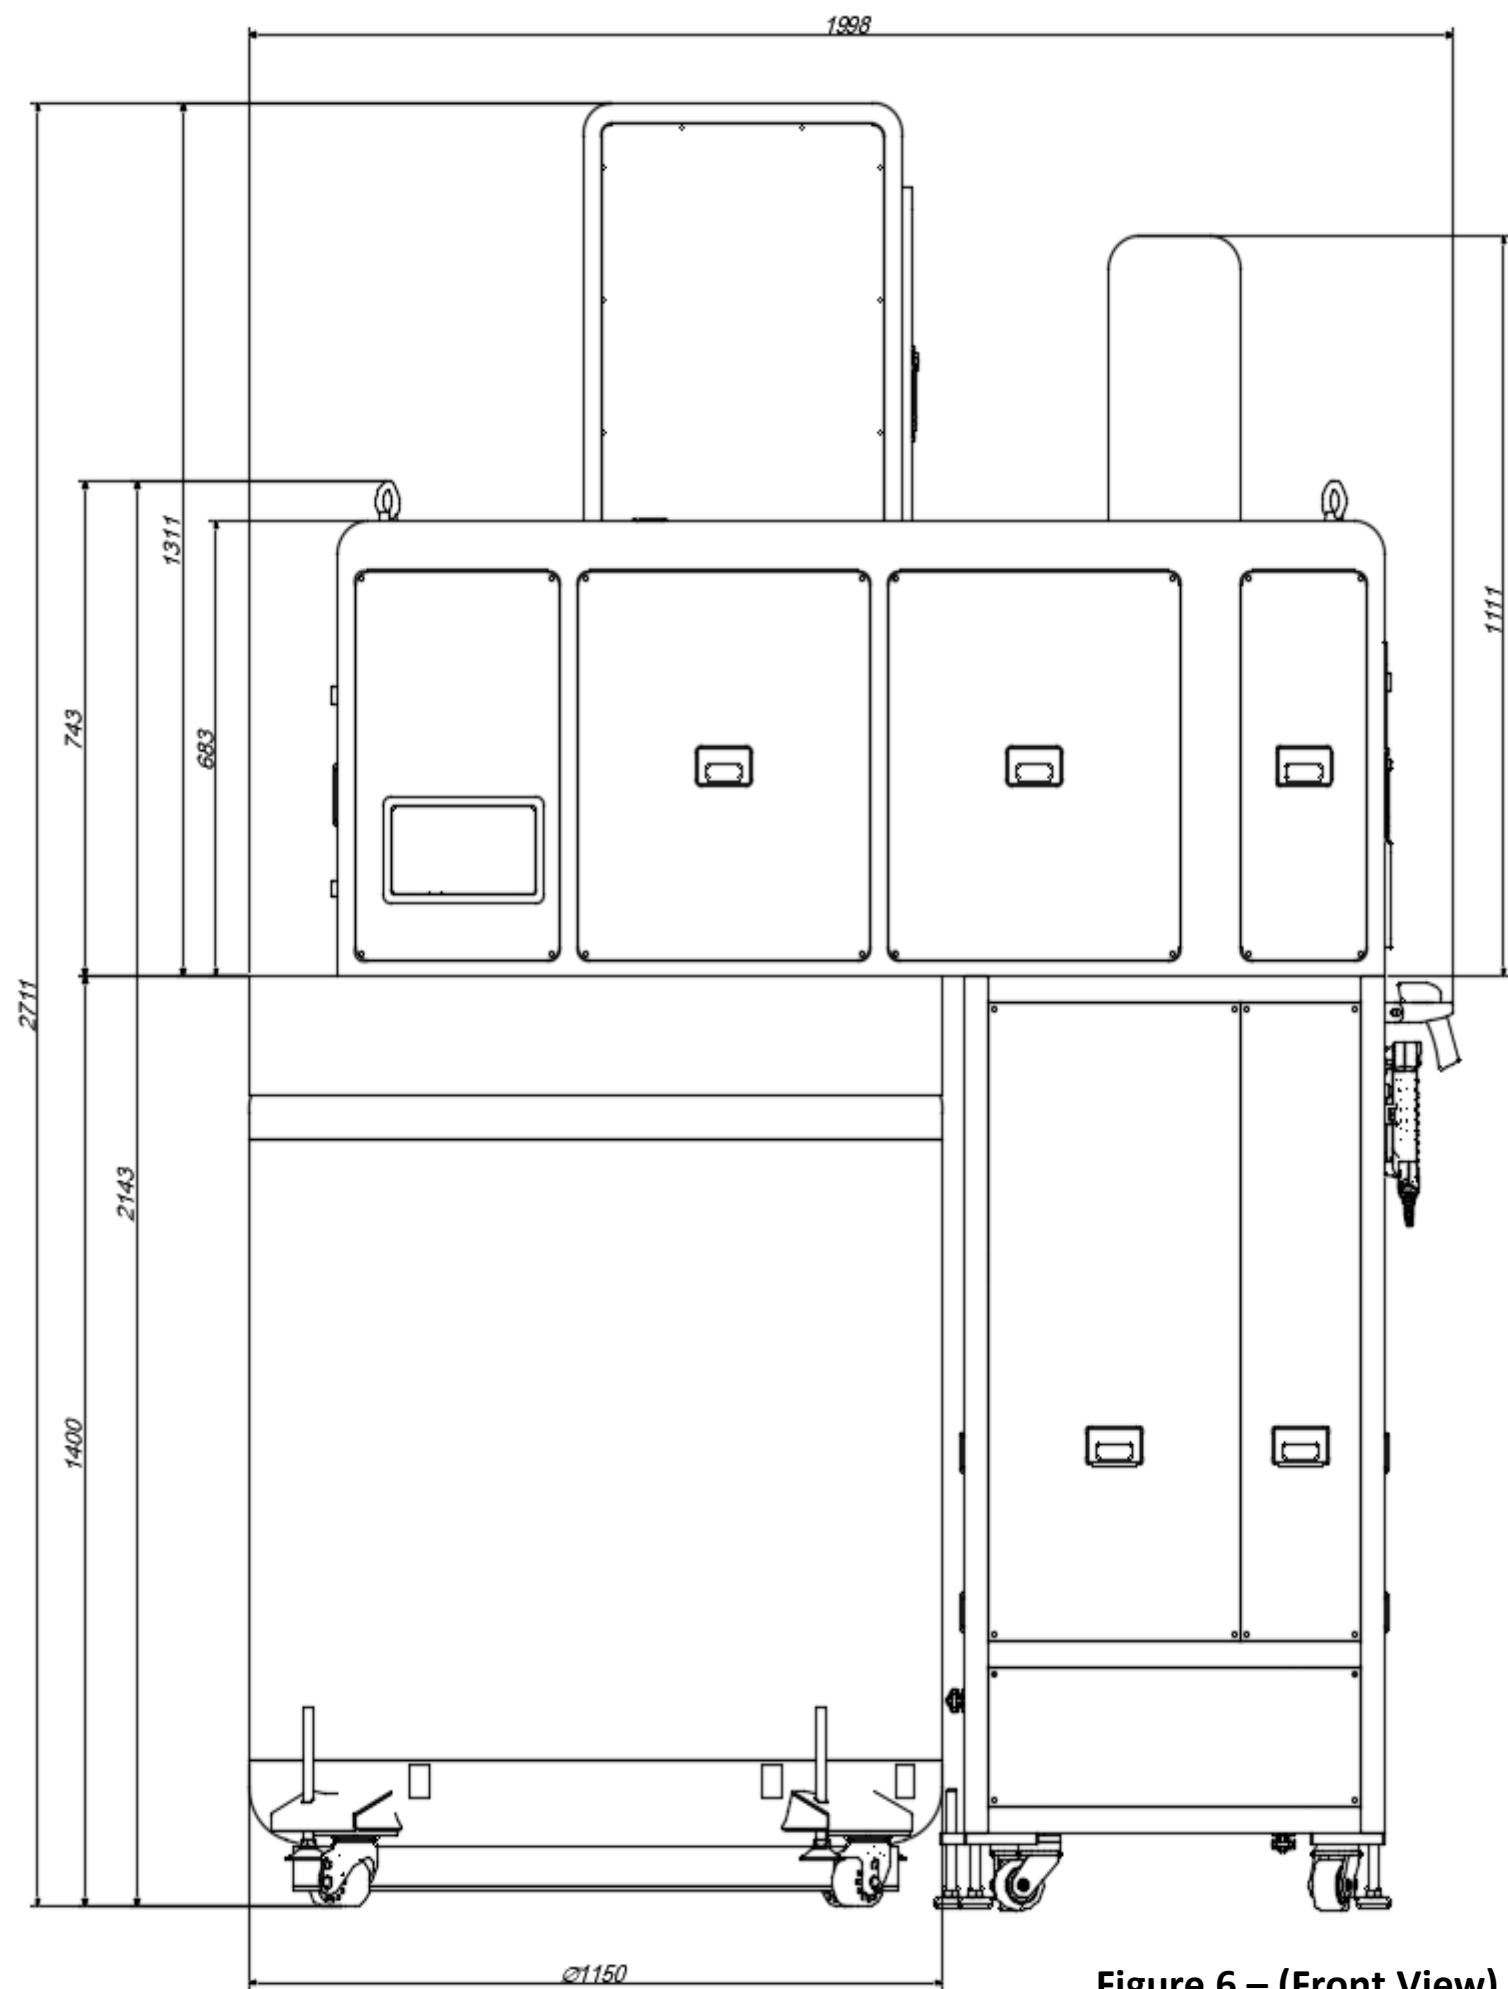

Figure 6 – (Front View)
RoboStor™ w/ CVR Dimensions	1998 mm(W) x1239 mm(D) x 2711 mm(H) (Figure 6) (6.56 ft x 4.06 ft x 8.89 ft)